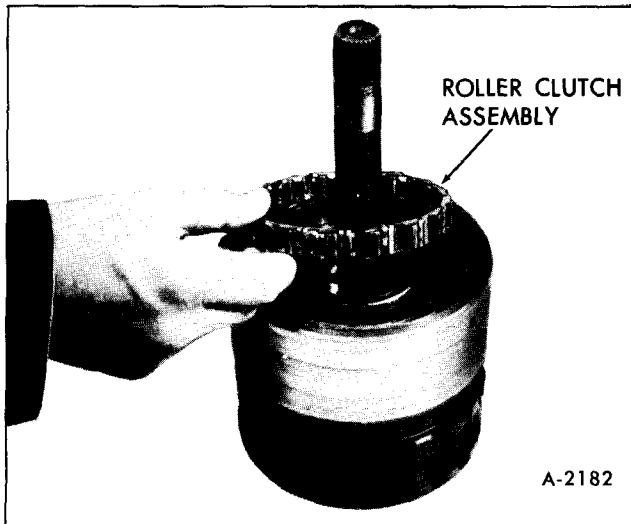

Figure 65—Roller Clutch Installation
18. Install roller clutch assembly in reaction carrier, Figure 65.